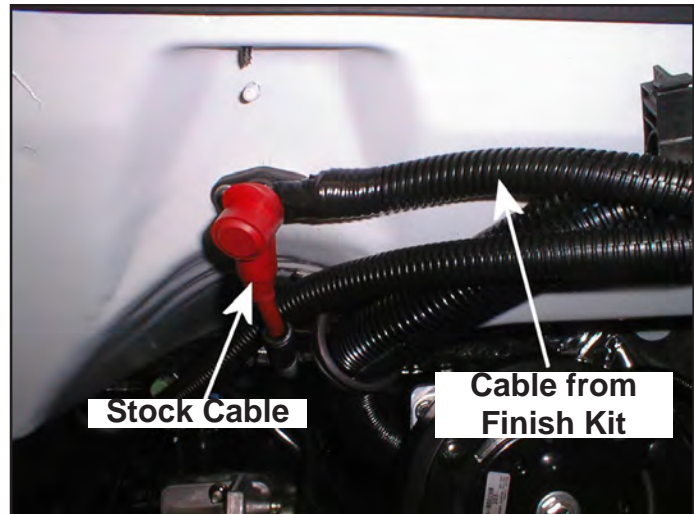

Figure 21. Mount Terminal Block to Firewall
1. Mount the terminal block to the firewall. This eliminates the need to cut off the original ring connector or splice the wire (see Figure 21 for mounting).